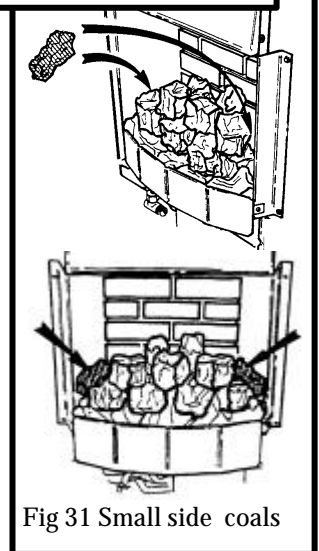

Fig 31 Small side coals
10.4.3 Place the two remaining small coals alongside the main coals (See figure 31)